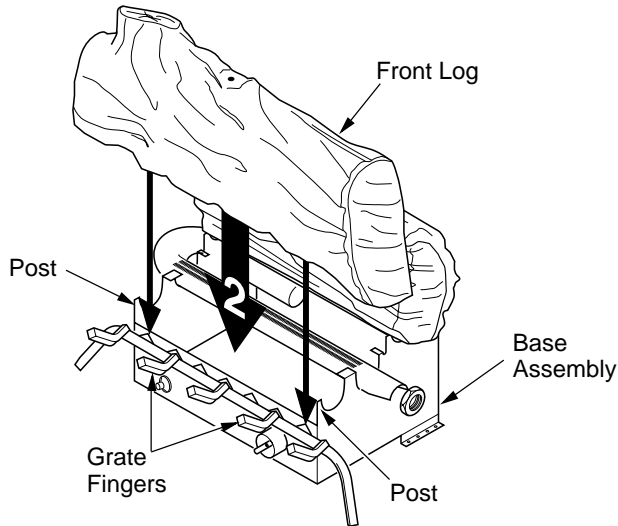

Figure 33 - Installing Front Log
2. Place front log onto grate on front of base assembly. The log will fit down between grate fingers and posts on front of base assembly (see Figure 33, page 17). This log may be turned to face either direction.